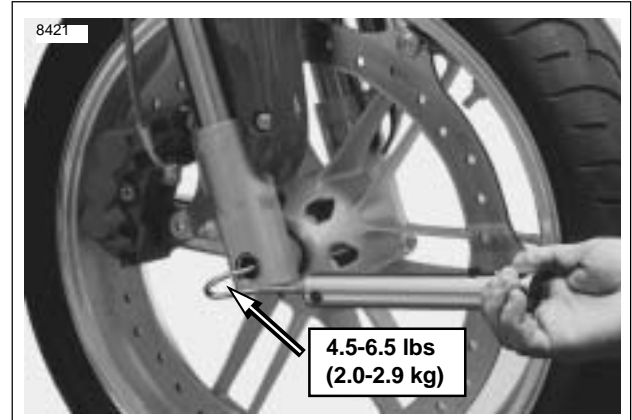

Figure 1-34. Measuring Steering Head Bearing Resistance
6. See Figure 1-34. Hook a spring scale into the hole in the front axle. With scale 90 degrees from fork leg, pull front wheel to center position.
7. See Figure 1-34. Hook a spring scale into the hole in the front axle. With scale 90 degrees from fork leg, pull front wheel to center position.